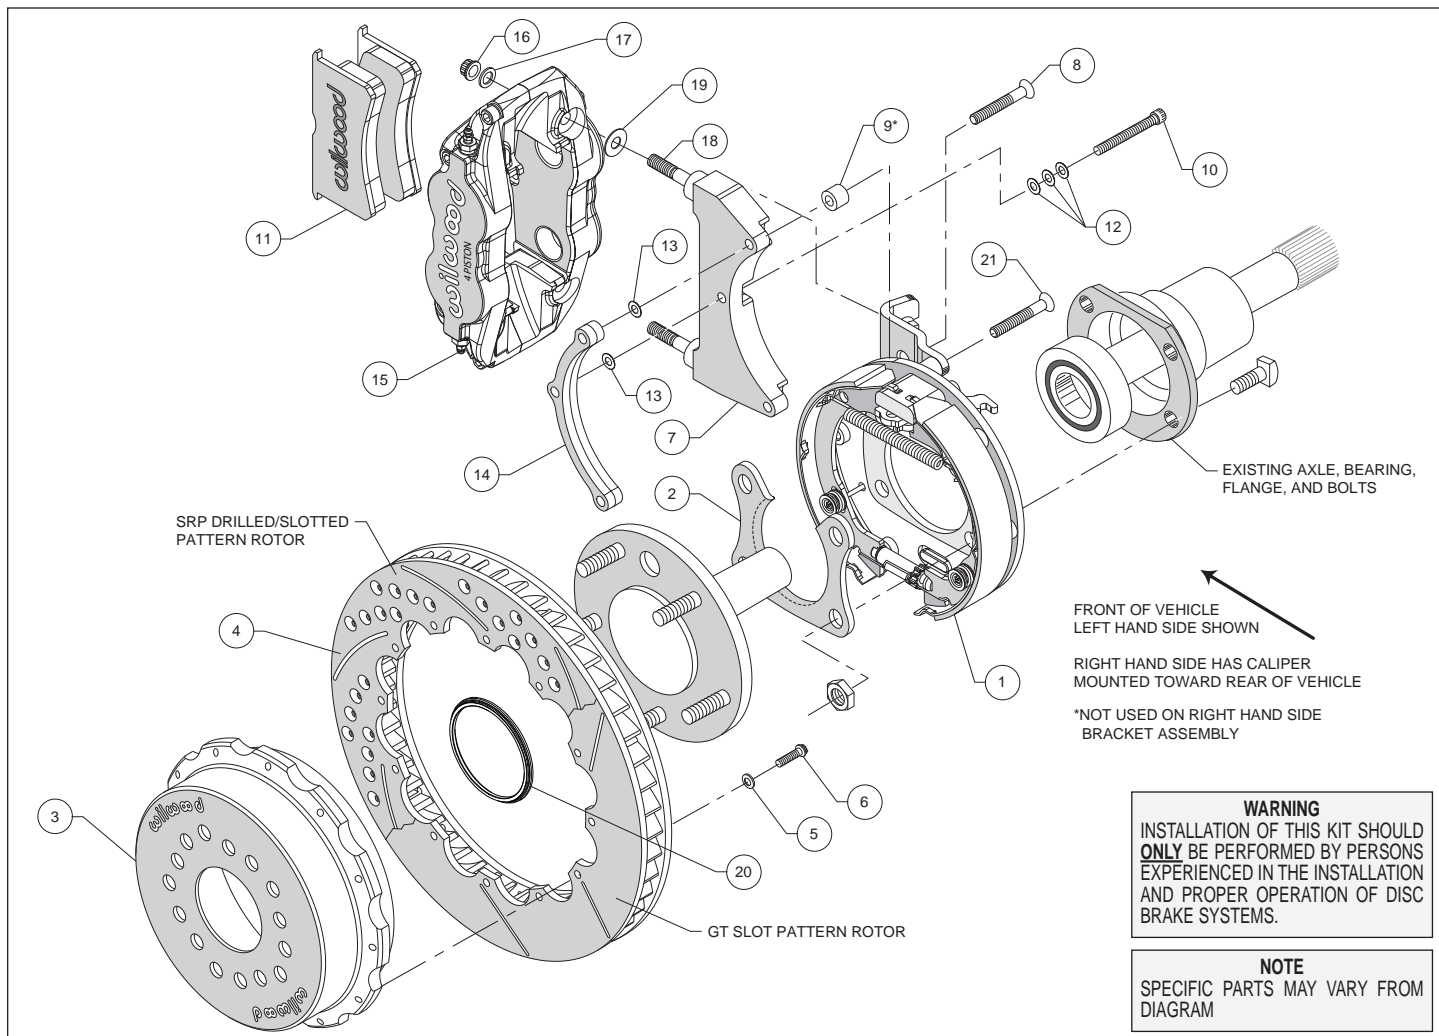
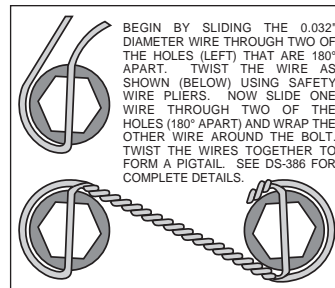

Figure 1. Typical Installation Configuration
Figure 5. Safety Wire Diagram
**Assembly Instructions** (numbers in parenthesis refer to the parts list and Figure 1 on the preceding pages): **CAUTION:** All mounting bolts must fully engage threaded holes.
- Orient the bracket assembly (1), as shown in Figure 1, and Photo 1, and slide it onto the axle. Insert the axle and bracket into the axle housing. Ensure that the bracket assembly backing plate fits flush against the axle housing flange.
- Install the bearing retainer (2) with the opening pointing upward and the lip facing inward (toward the bearing), as shown in Figures 1 and 4, and Photo 2. Secure retainer and bracket assembly to the axle housing flange using the Original Equipment Manufacturer (OEM) bolts and nuts, Figure 1. Apply red *Loctite*® 271 to the OEM bolt threads and torque to OEM specifications.
**Left Hand Side** - Remove and discard temporary rubber spacer from bolt (8). Orient the left hand bracket (7) and 3-hole spacer (14) as shown in Figure 1 and Photo 3, and install using bolts (10) and three washers (12) in the middle and lower hole locations, Figure 1. Use bolt (8) in the upper hole with spacer (9) placed between the bracket (7) and the cable stop bracket, Photo 3. Initially place one .015" shim washer (13) on each of the three bolts between the bracket and 3-hole spacer, Figure 1. Temporarily tighten the mounting bolts.
**Right Hand Side** - Orient the right hand bracket (7) and 3-hole spacer (14) as shown in Photo 4, and install using bolts (10) and three washers (12) in each hole location. Initially place one .015" shim washer (13) on each bolt between the bracket and 3-hole spacer. Temporarily tighten the mounting bolts.
- Orient the rotor (4) and the hat (3) as shown in Figure 1 and Photo 5. Attach rotor to hat using bolts (6) and washers (5). Using an alternating sequence, apply red *Loctite*® 271 to the threads, and torque to 155 in-lbs. For an added measure of security, the bolts may be safety wired using standard 0.032 inch diameter stainless steel safety wire as shown in Figure 5. Please refer to Wilwood's data sheet DS-386 (available at [www.wilwood.com/Pdf/DataSheets/ds386.pdf](http://www.wilwood.com/Pdf/DataSheets/ds386.pdf)) for complete safety wire installation instructions.
- Slide the rotor registration adapter (20) onto the axle register on the axle flange with the smaller O.D. facing toward the rotor/hat (3/4), Photo 6. Align the correct hole pattern in the hat with the stud pattern on the axle flange and slide into place, Figure 1 and Photo 7. **NOTE:** The rotor/hat must fit flush against the axle flange or excessive rotor run out may result. Install three lug nuts (finger tight) to keep the rotor/hat assembly in place while continuing with the installation. **NOTE:** Some OEM and after market axles come with stud sizes larger than 0.50" diameter. Verify stud size and have a qualified machine shop drill the bolt circle of the hat/rotor to the correct stud size, if necessary.